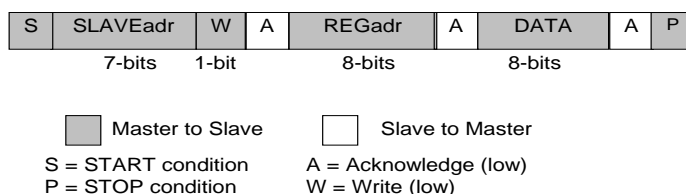
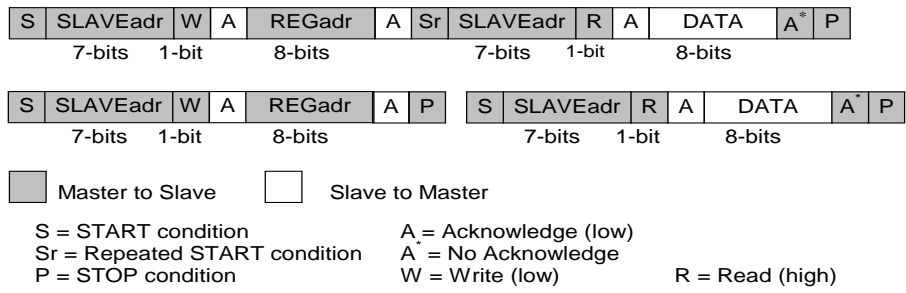

Figure 17. I²C Byte Write (SDA Line)
Figure 18. I²C Byte Read (SDA Line) Examples
The I²C bus is monitored for a valid slave address whenever the interface is enabled. It responds immediately when it receives its own slave address. The acknowledge is done by pulling the SDA line low during the following clock cycle (white blocks marked with A in Figure 17 and Figure 18).
The protocol for a register write from master to slave consists of a START condition, a slave address with read/write bit, and the eight-bit register address followed by eight bits of data, terminated by a STOP condition. DA9132-A responds to all bytes with acknowledge (A), see Figure 17.
When the host reads data from a register it first has to write to DA9132 with the target register address and then read from DA9132 with a repeated START, or alternatively a second START, condition. After receiving the data, the host sends no acknowledge (A*) and terminates the transmission with a STOP condition, see Figure 18.